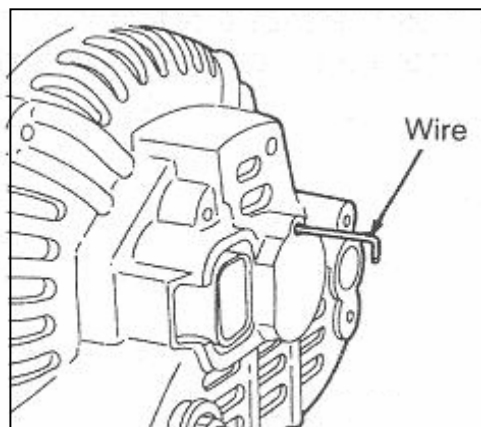

Fig. 9-37
- (1) Regulator installation (see Fig. 9-37、 9-38)